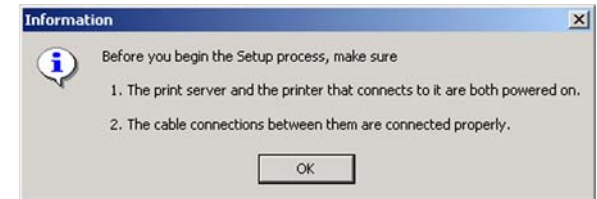

Figure 5-7: TCP/IP
8. The Information screen appears next. See Figure 5-7. Read the information, then click **OK**.